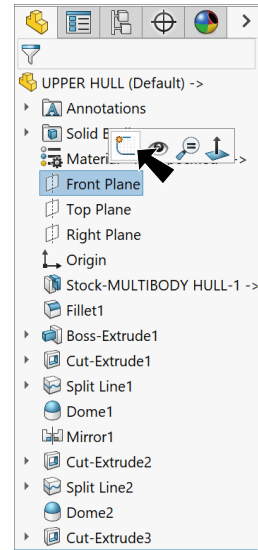

Fig. 50
Step 1. Click **Front Plane**  in the Feature Manager and click **Sketch**  on the context toolbar, **Fig. 50**.